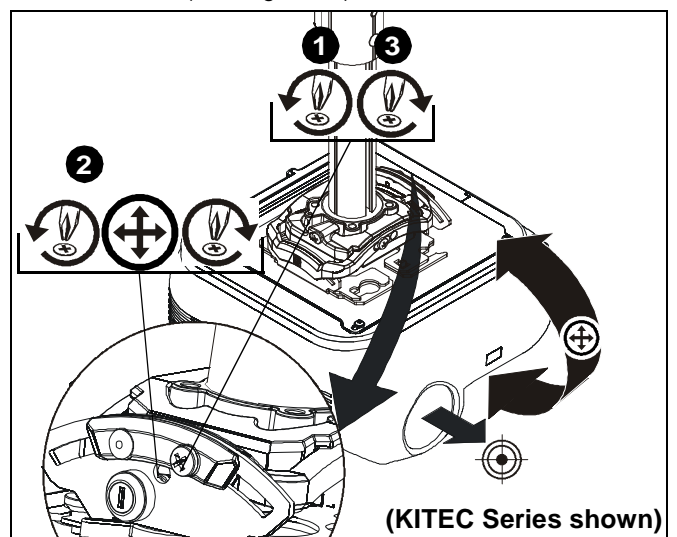

Figure 24
1. Loosen PITCH adjustment locking screw using a #2 Phillips screwdriver. (See Figure 24)
2. Turn PITCH micro-adjustment screw right or left using a #2 Phillips screwdriver until image is properly aligned on target. (See Figure 24)
3. Tighten PITCH adjustment locking screw using a #2 Phillips screwdriver. (See Figure 24)